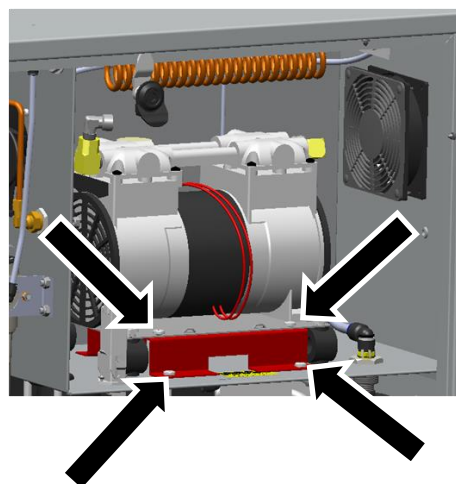

Figure 2: Remove the four screws
2. Remove the four screws with a #3 Pozi-drive Screwdriver. See figure 2.